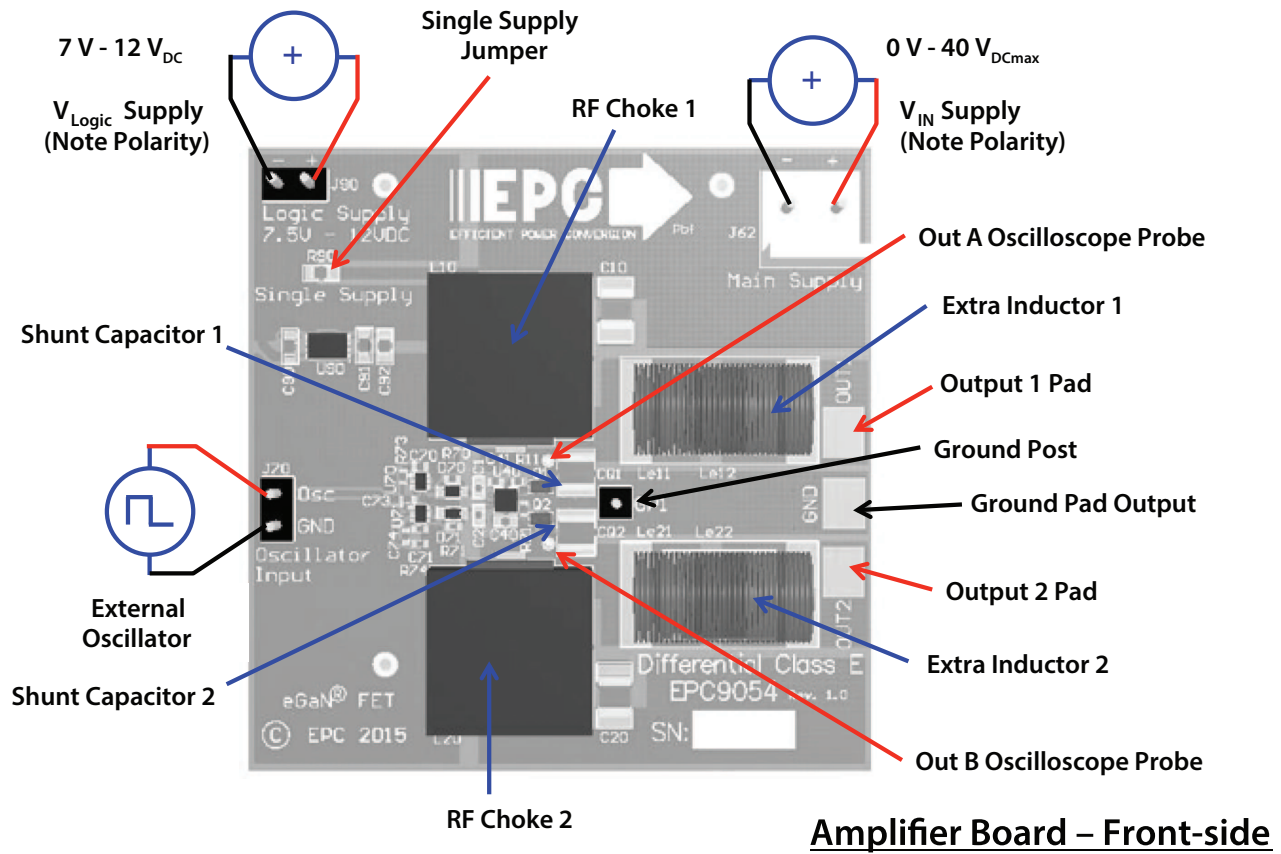

Figure 5: Proper connection and measurement setup for the amplifier board.
2. With power off, connect the main input power supply bus to J62 as shown in figure 5. Note the polarity of the supply connector. Set the voltage to 0 V.
3. With power off, connect the logic input power supply bus to J90 as shown in figure 5. Note the polarity of the supply connector. Set the voltage to between 7 V and 12 V.
**NOTE.** When measuring the high frequency content switch-node, care must be taken to avoid long ground leads. An oscilloscope probe connection (preferred method) has been built into the board to simplify the measurement of the Drain-Source Voltage (shown in figure 5). The choice of oscilloscope probe needs to consider tip capacitance where this will appear in parallel with the shunt capacitance thereby altering the operating point of the amplifier.